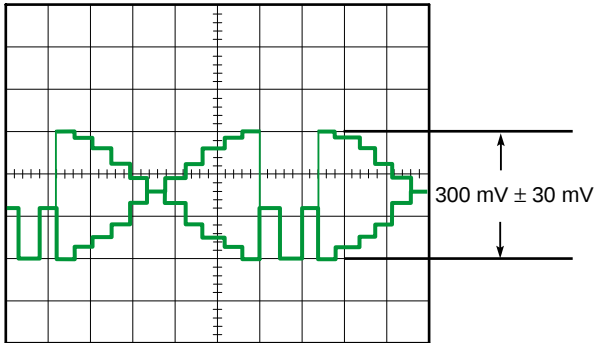

Fig. 4-3
- Adjust data with the **ARROW** keys so that the AGC OUT signal level becomes 300 mV $\pm$ 30 mV as shown in Fig. 4-3.